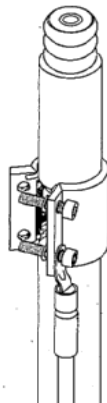

Figure 18
c) Remove the protection sheet on the ground kit, clamping the grounding kit around the control cable, and align with striped line as shown in Figure 18.